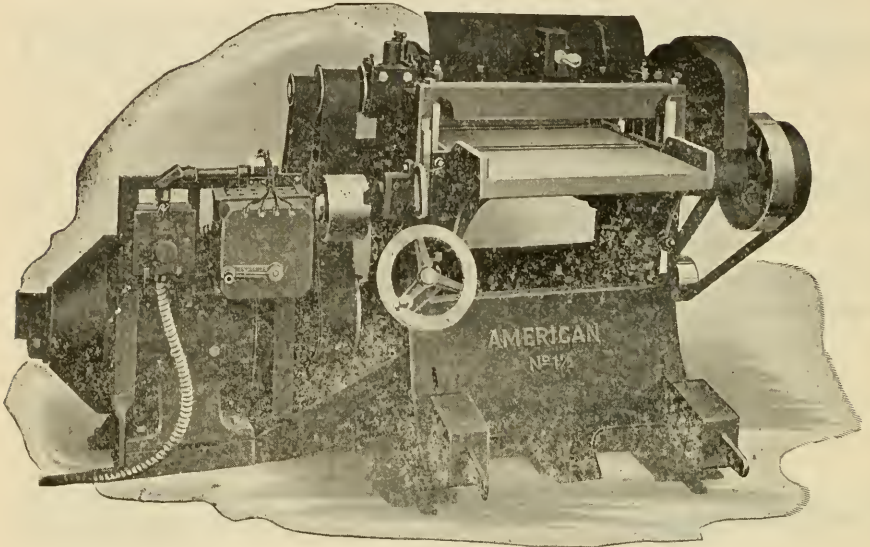

FIG 35—SINGLE SURFACER WITH INDIVIDUAL MOTOR DRIVE
The single surfacer, also called planer, shown in Fig. 35 is of a
33. Operation and Adjustment--The hand wheel, just below the gauge on the left side of the machine in Fig. 35 is used to raise and lower the table so as to adjust it for the wood which is to be planed. Find the thickest part of the piece which is to be planed and set it so as to take a cut of about one-sixteenth of an inch in thickness. It is sometimes necessary to raise the back end of the board slightly higher than the top of the table in order that the corrugated feed roll may grab it and draw it into the machine. Feed so that the cylinder will cut with the grain. It next passes under the chip-breaker pressure bar which is adjusted either by a spring or weight (weight in this case.) After passing the pressure bar it now meets the cylinder head and the chips follow the curve of the breaker and fly out over the machine. Just after the board passes under the cylinder head it encounters the back pressure bar which holds it firmly to the bottom feed rollers so that the stock is cut to a uniform thickness. After the back pressure bar the stock of course passes between the two feed rollers to the back of the machine and continues on through.